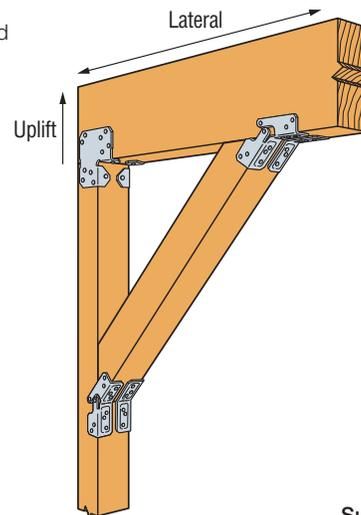
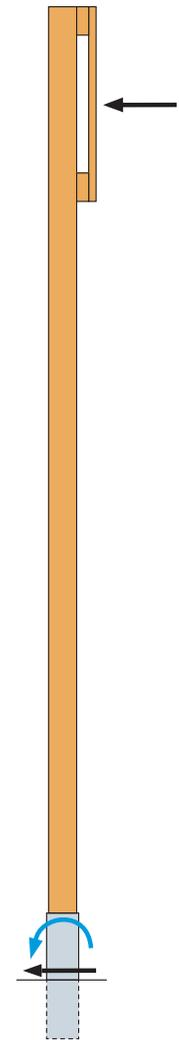

Figure 2 — Typical LCE™ Post Cap Installation with KBS1Z® Knee Bracing
Figure 3 — Non-Top-Supported Post with MPBZ Moment Post Base
- Except for the MPBZ® moment post base, post bases do not provide adequate resistance to prevent members from rotating about the base and are therefore not recommended for non-top-supported installations (such as fences, patio covers, pergolas or unbraced carports). The top of the post must be restrained from moving horizontally by some other means, e.g., by tying the roof into a supporting structure or by adding knee bracing between the posts and beams. (Figure 2) Alternatively, see the MPBZ on pp. 88–89 for a post base that provides moment resistance for columns or posts. (Figure 3)
- Allowable lateral loads for post caps can only be achieved if one of the members, the post or beam, is supported laterally by other means. (Figure 2) For applications involving lateral load transfer from the beam to the column, the column must be designed to receive the load without rotating about its base (e.g., cantilevered out of the ground, diagonally braced, or connected at the base with a moment-resisting connector like the MPBZ post base).